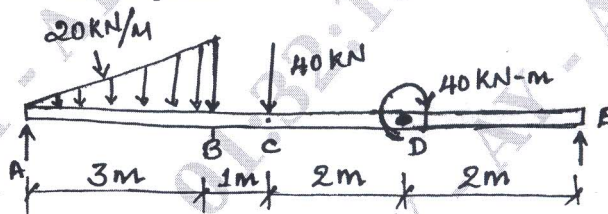

Fig.Q6
- 6 Draw shear force and bending moment diagram for the simply supported beam shown in Fig.Q6 indicating values at silent point. (20 Marks)